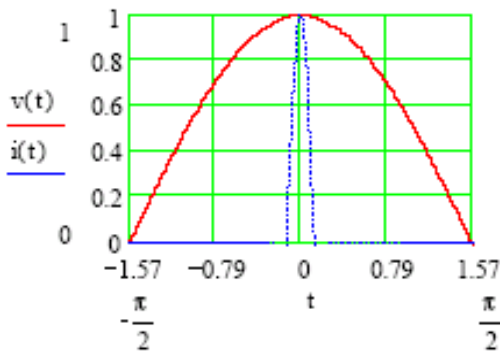
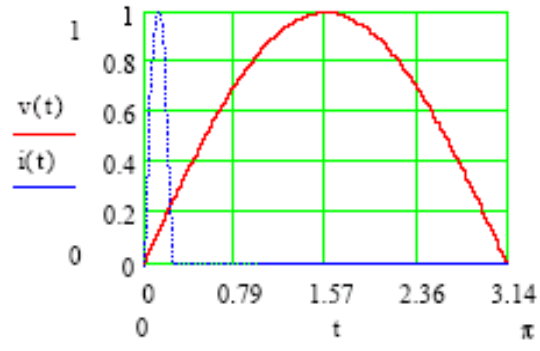

Figure 3-2 Maximum PF Passes Fixed CF
Figure 3-3 Minimum PF Passes Fixed CF
Both situations are shown in Figure 3-2 and Figure 3-3.
1. *Figure 3-2* illustrates the maximum PF achievable at a specified CF setting in CC Rectified mode (see section 3.4.1) and CS Rectified mode (see section 3.4.2).